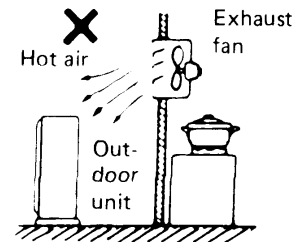

Fig. 2
- heat sources, exhaust fans, etc., Fig. 2